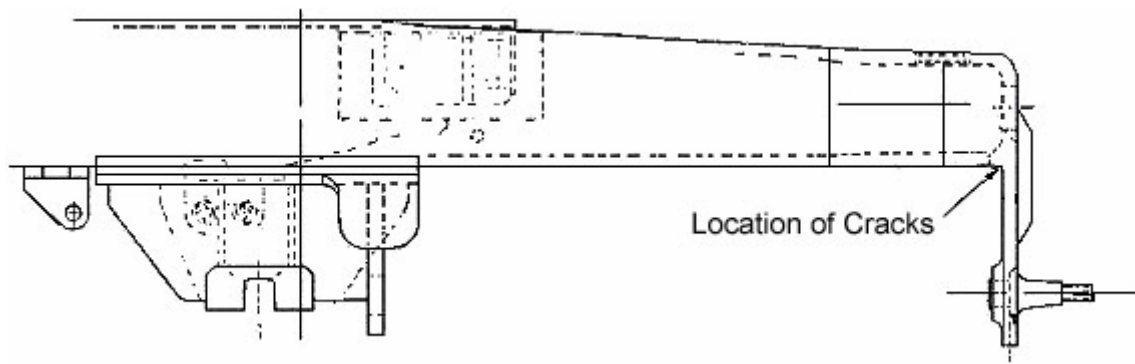

Figure 1: Location of Cracks
2. Remove all oil, grease, rust, scale, paint, etc. from the control rod casting (see Figure 1) by degreasing, wire brushing or grinding.